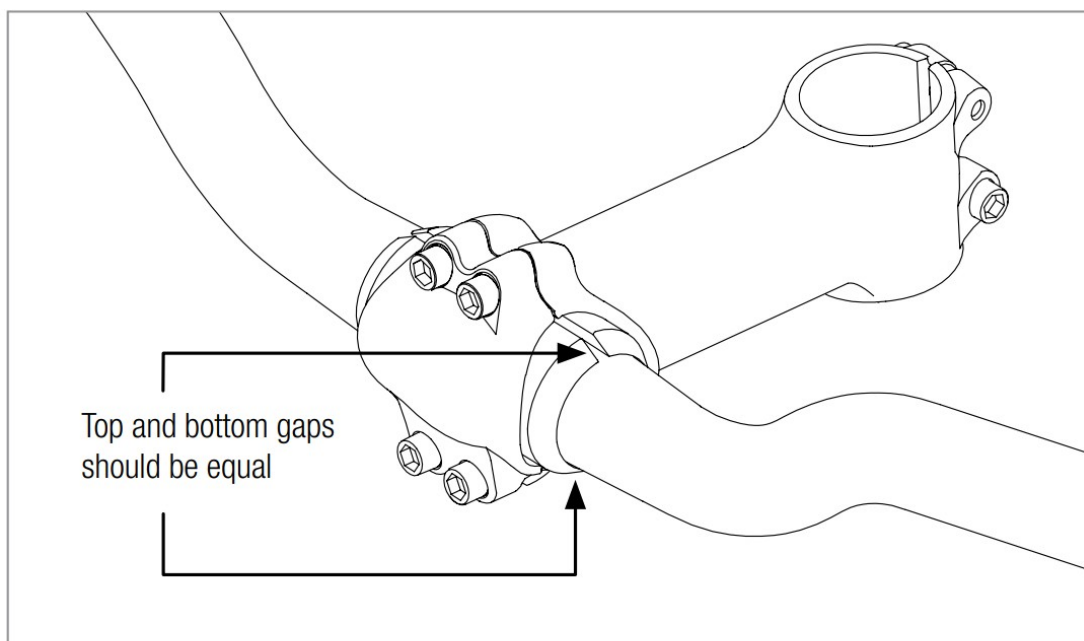

Figure 1
3. The gaps between the two shim pieces top, bottom and sides must be evenly spaced for adequate clamping force (fig. 1). Insert handlebar and shims into the stem's clamping area